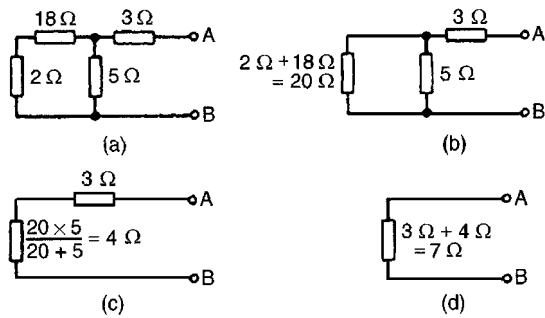

Figure 13.31
- (iv) The resistance ‘looking-in’ at terminals AB in Fig. 13.31(a) is obtained by reducing the circuit in stages as shown in Figures 13.31(b) to (d). Hence the equivalent resistance across AB is $7\ \Omega$.